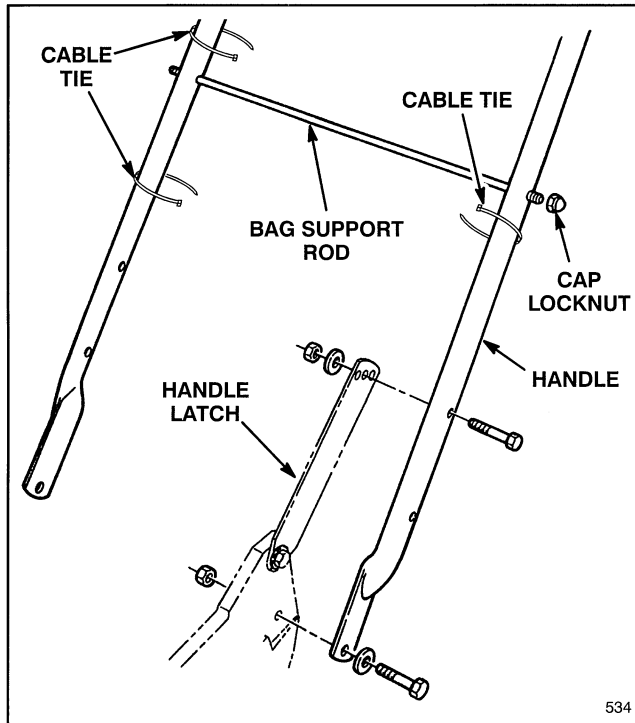

Figure 1
INSTALL HANDLE (Fig. 1)
4. Use cable ties to secure control cables to handle as shown in Figure 1.